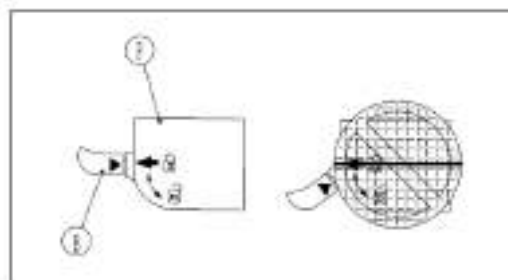

Figure 3-94 Steps for opening the front window(II)
If the arrow on lock shell (F) is directly facing the arrow on the lock handle (B), the handle is well locked, as shown in Figure 3-94. If the arrow on lock shell (F) is not facing the arrow on the lock handle (B), the handle hasn't been locked; repeat step 5 to lock it.